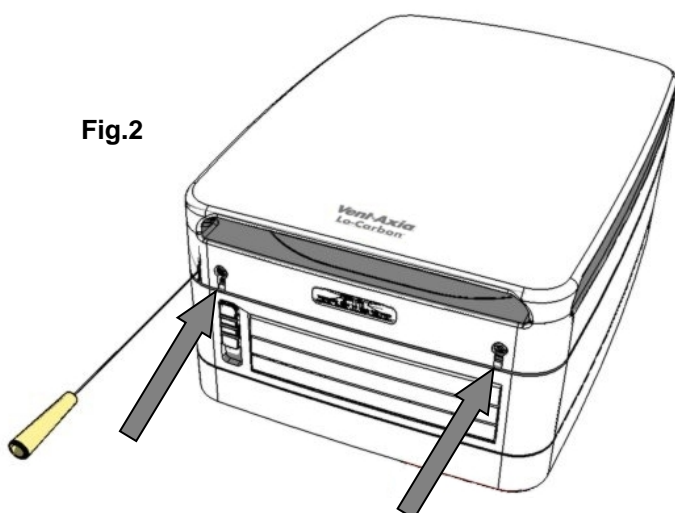

Fig.2
3) Undo 2 fixing screws and lift off Cover Plate Fig 2 & 3.